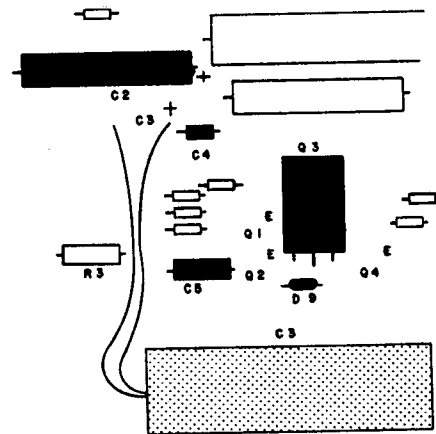

Figure 3-5. C3 Wiring
3. After C3 is secure, insert the RED wire from C3 through the C3+ hole on the top of the PC Board, and solder the wire on the foil (bottom) side (Figure 3-5).
4. Insert the BLACK wire from C3 through the remaining hole, and solder to the foil side (Figure 3-5).